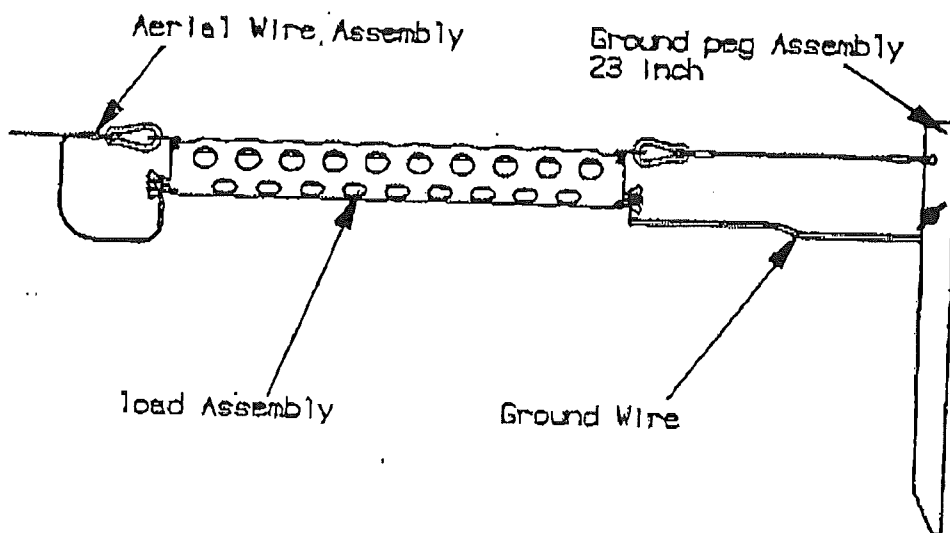

Figure 5-4a. End Fed Terminated Wire, Termination
- Step 11 Terminate the end of the wire using a Load Assembly and Ground Peg Assembly, 23 inches (see Figure 5-4a). Drive in the Ground Peg.